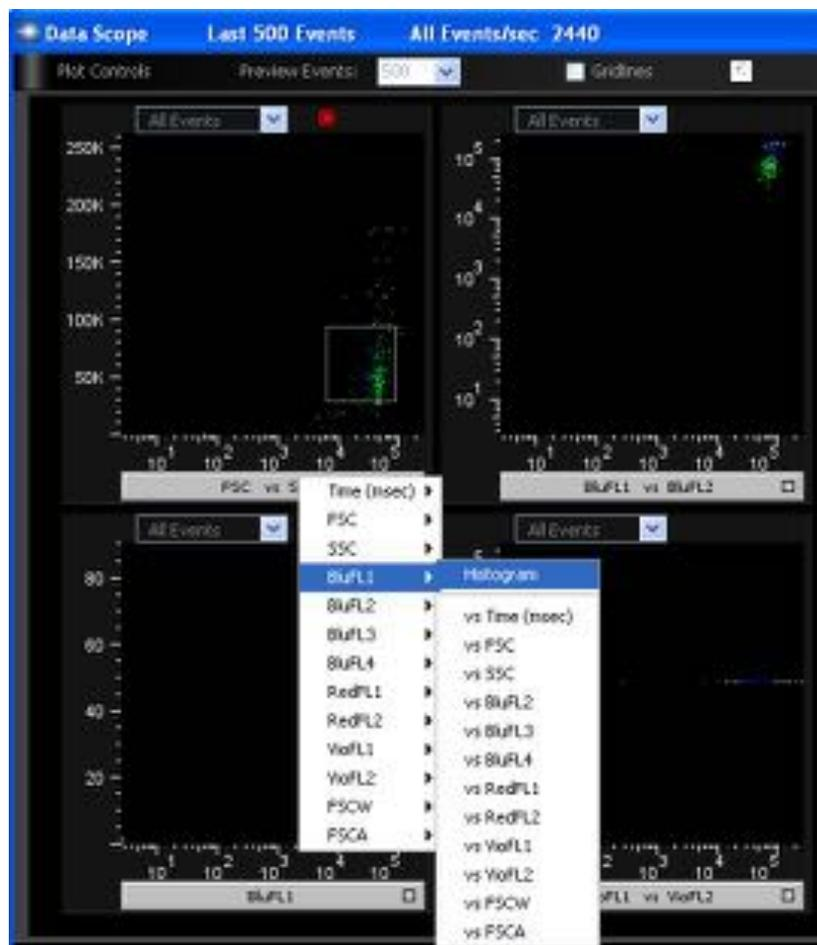

Figure 7.2.2
7.2.1 To make a Histogram (figure 7.2.2):